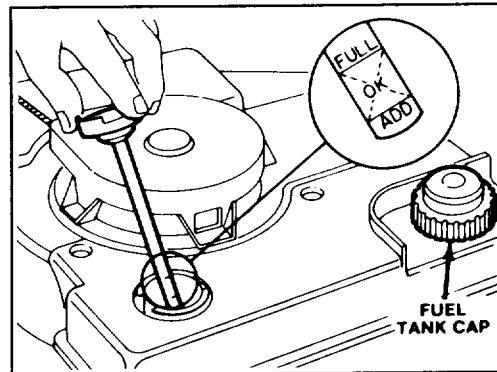

Figure 4
Before each use, assure oil level is between FULL and ADD marks on dipstick (Fig. 4). Add oil if level is low.
2. Remove dipstick by rotating cap counterclockwise (Fig. 4).
3. Wipe dipstick and insert it into filler neck. Rotate cap clockwise. Then remove dipstick and check level of oil on side of dipstick with FULL and ADD marks (Fig. 4). If level is low, add only enough oil to raise level to FULL mark on dipstick. **DO NOT FILL ABOVE FULL MARK BECAUSE ENGINE COULD BE DAMAGED WHEN STARTED. POUR OIL SLOWLY.**
1. Clean around fuel tank cap and remove cap from tank (Fig. 4). Using unleaded gasoline, fill fuel tank to within 1/2 inch (13 mm) from top of tank, not into filler neck. Do not fill tank full.
1. CHECK OIL LEVEL—Maintain oil level between ADD and FULL marks as shown on dipstick (Fig. 4).